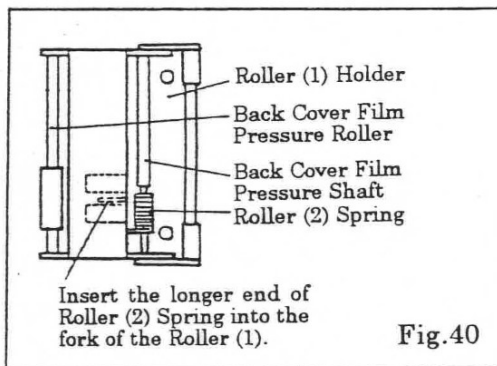

Fig.40
- b) Apply Grease (HK-9) to both ends of each of the Back Cover Film Pressure Roller (1AA16810) and Back Cover Roller (1) (1AA16300).
- c) Insert the longer end of the Roller (2) Spring (1AQ19610) into the fork of the Roller (1) Holder. (See Fig. 40)